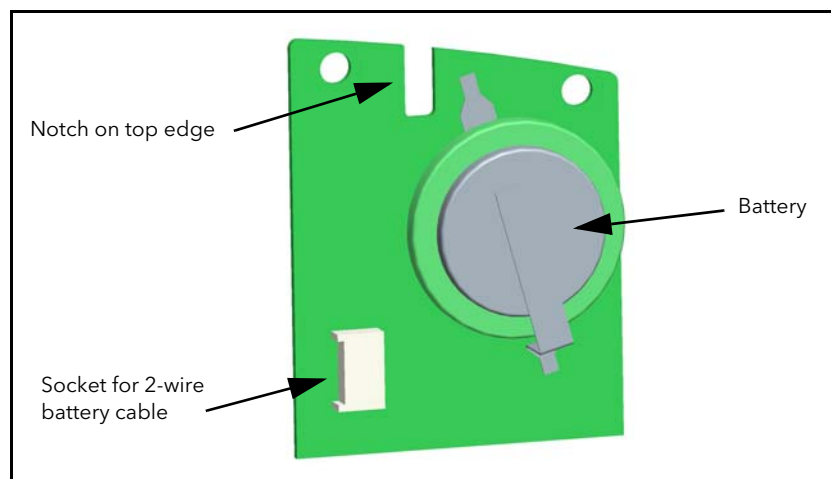

Figure 3 New battery board
- Take the new battery board (Figure 3), and plug the two-wire battery cable into it.